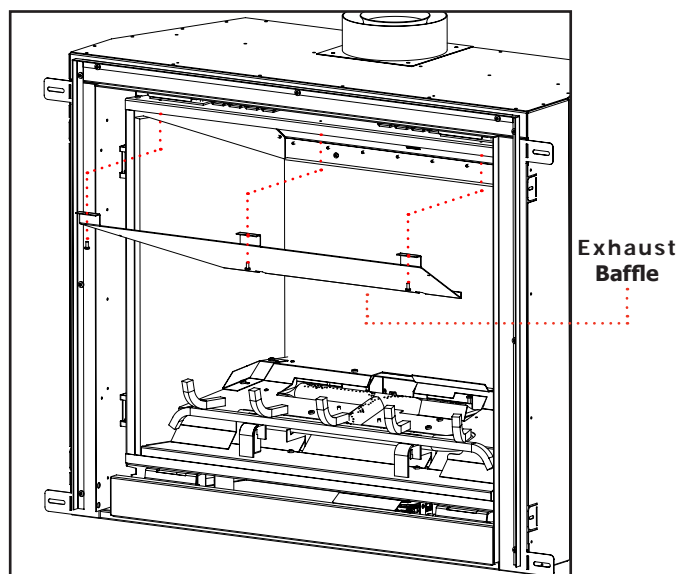

Figure 25b.
- Step 3.** Using T20 screwdriver remove the X3 fasteners securing the exhaust baffle in place. Fig.25b
- Step 8.** Using X3 T20 screws secure front of Exhaust Baffle to the underside of the firebox. Fig 25b.